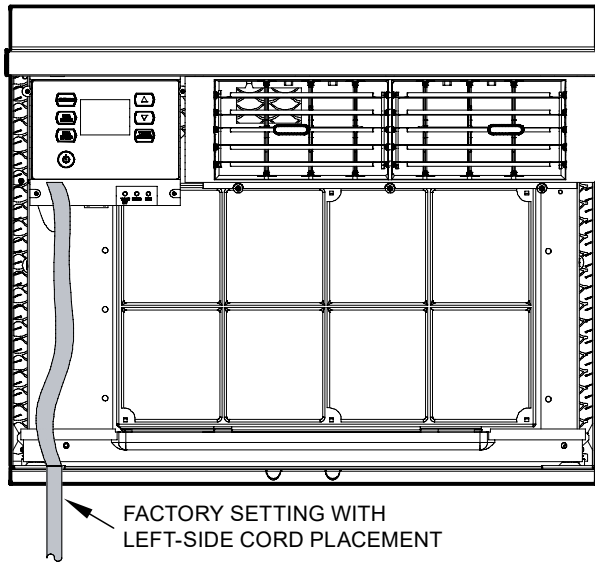
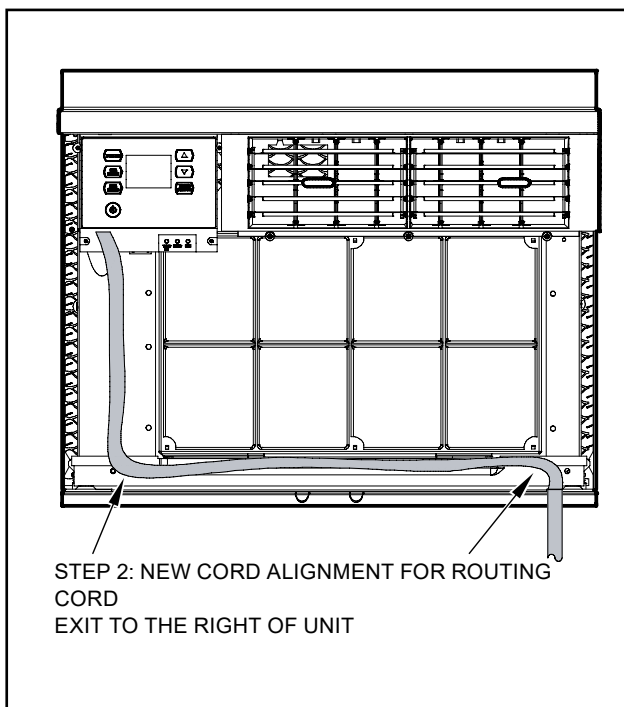

Figure 412
Figure 413
- STEP 2.** Route the cord along bottom inside of the unit (see Figures 412 and 413), under the lower left mounting screw embossments and exit the cord through right side cord opening (see Figure 413) of the decorative front cover. Decorative front cover will keep cord in place.